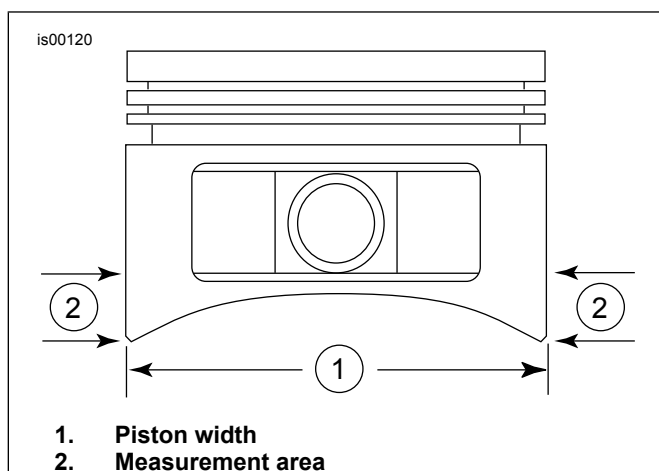

Figure 1. Piston Measurements
- See Figure 1. Measure the piston width (1), 90 degrees horizontally from both sides of the pin piston pin hole and at 0.285 in. above (2) the lowest portion of the skirt